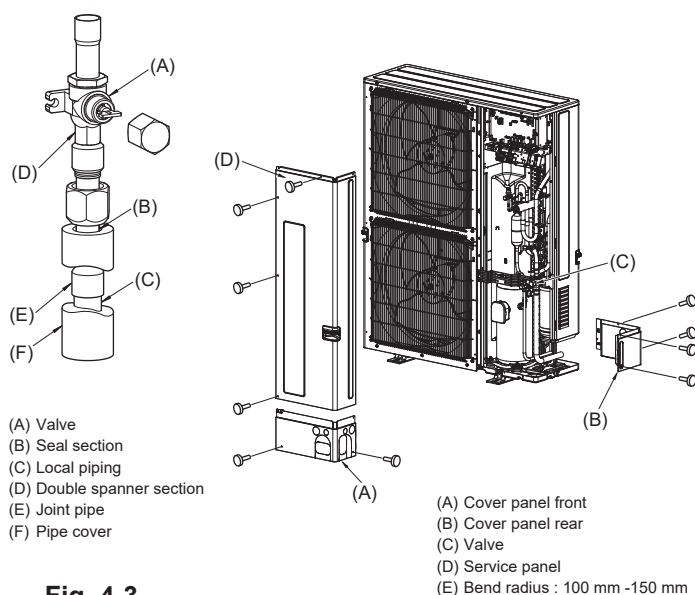

Fig. 4-3
(3) Use the following procedure for connecting the gas-side piping. (Fig. 4-3)
- Braze the (E) Joint pipe provided to the outdoor unit using locally procured brazing materials and (C) Local piping without oxygen.
- Connect the (E) Joint pipe to the gas-side valve.